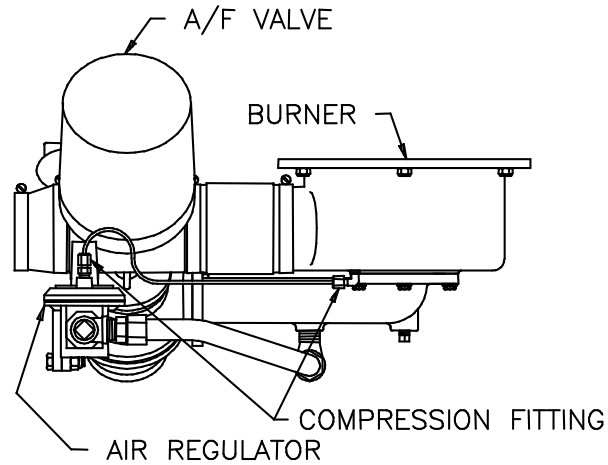

Figure 6.17
2. Using a wrench, loosen the two compression fittings holding the 1/4" feedback tube between the burner and air regulator and remove the feedback tube. (See Fig. 6.17)